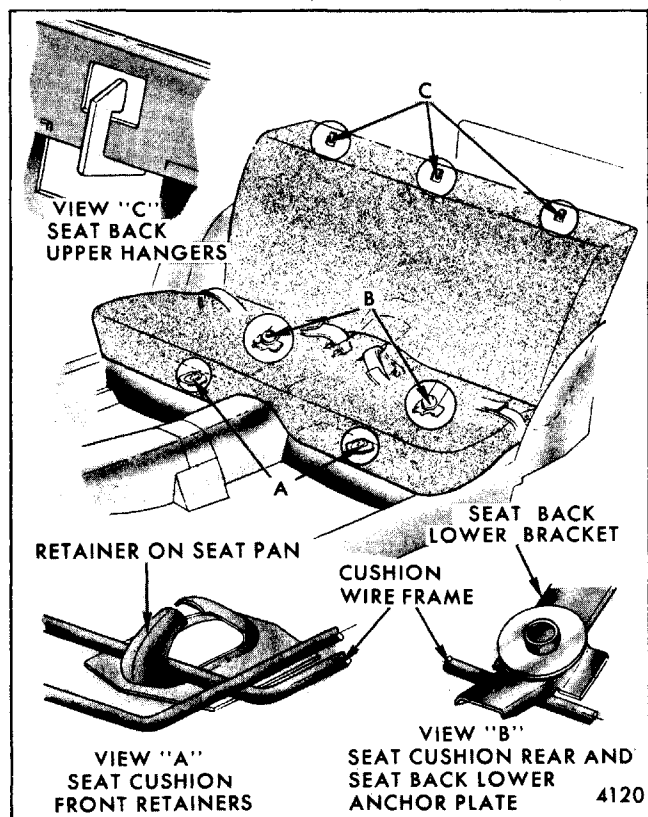

Fig. 9-95-Rear Seat Cushion and Seat Back - H-27 Styles
1. To remove rear seat cushion, push front of seat rearward and lift upward to disengage cushion frame wire from retainer on floor pan; then pull toward front of body until cushion frame rear wires disengage from under rear retainers on floor pan (Fig. 9-95). Disengage seat belts from seat belt retainers and lift cushion from body.